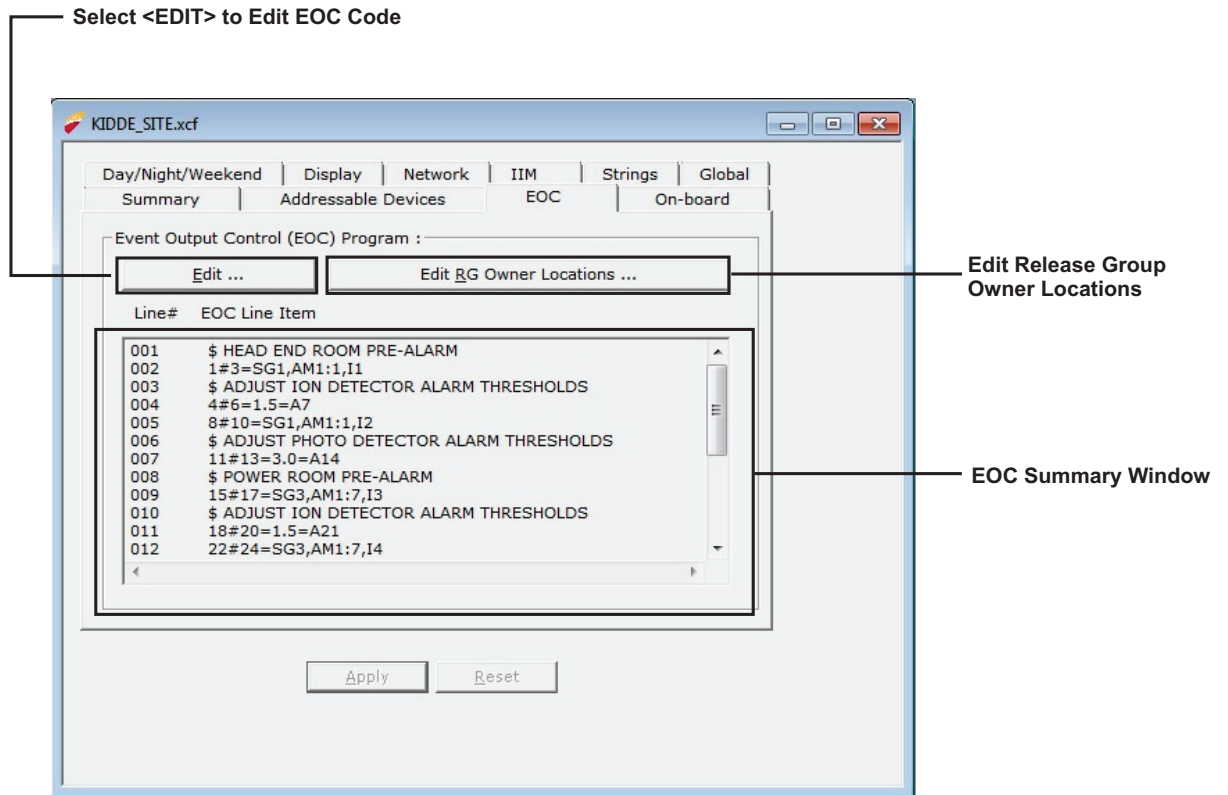
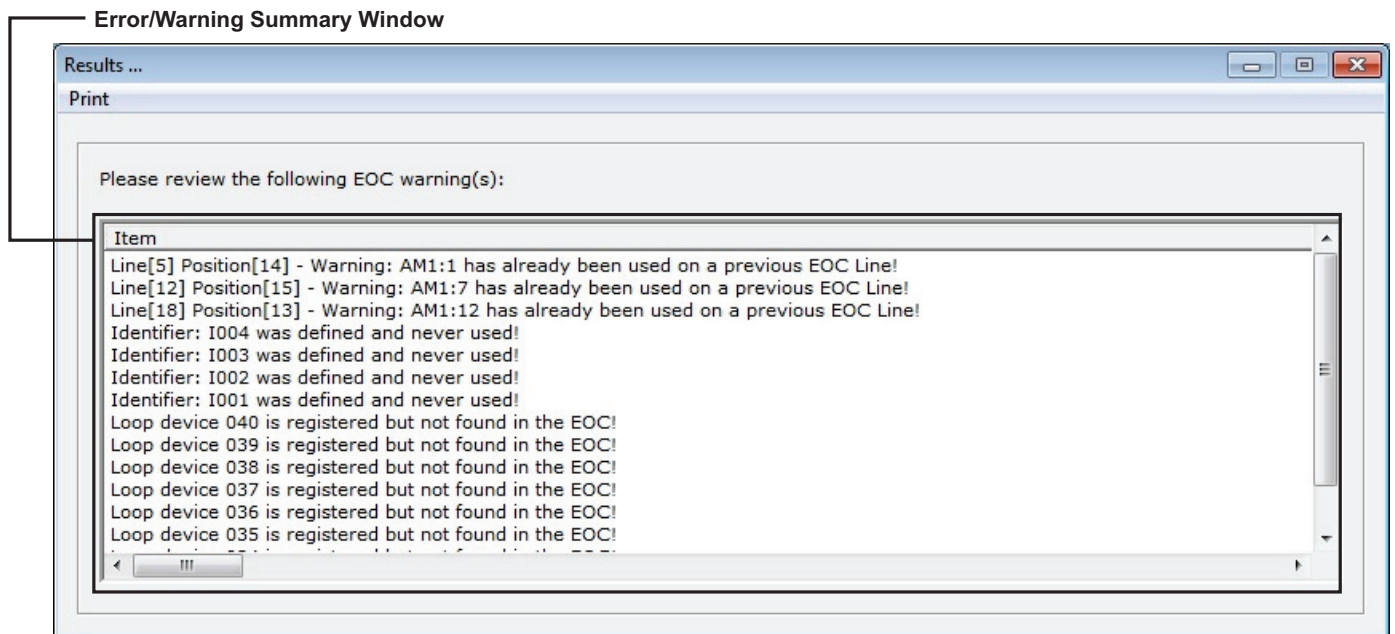

Figure 3-3. Saved EOC Code Screen
Figure 3-4. EOC Error and/Warning Screen
2. Select **<OK>**. Figure 3-3 shows the saved EOC code after **<APPLY>** has been selected. If the program detects an undefined SLC device or a syntax error, Figure 3-4 displays when exiting the EOC tab. Edit the EOC code as necessary to remove all errors and warnings.